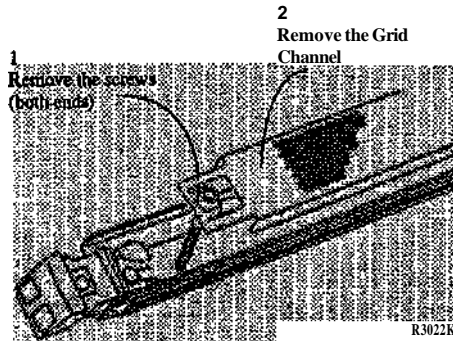

Figure 2. Removing the Grid Channel
5. (Figure 2): Remove the Grid Channel.